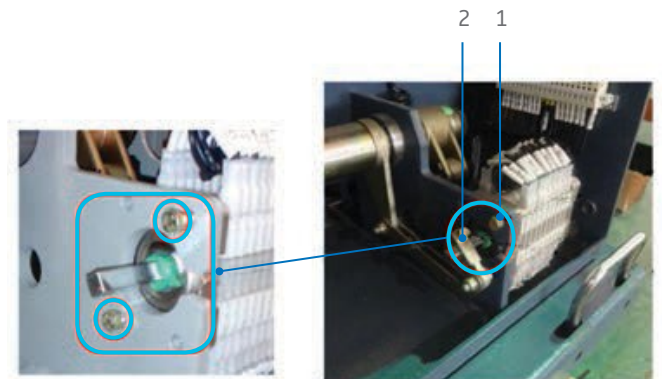

Figure 29: Removal and Replacement of Auxiliary Switch
As shown in Figure 29, loosen clamp bolt (2) and slide the operating arm off the shaft. Remove mounting bolts (left side photo, 1) take off the auxiliary switch and the secondary wiring as required.